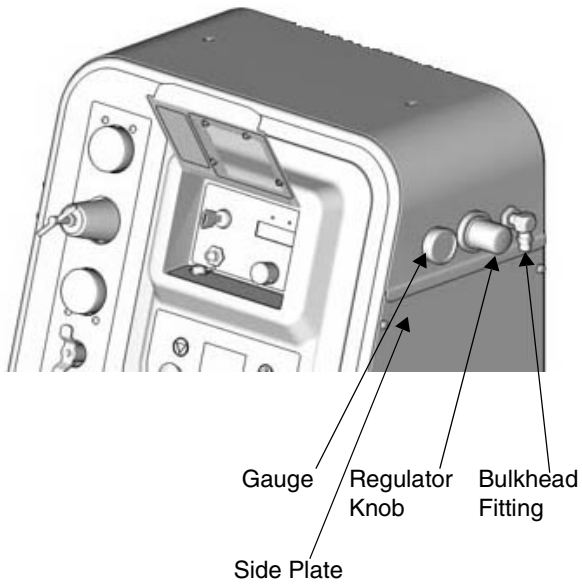

FIG. 1
4. Remove knockouts in the plate (2 on meter-based systems and 3 on pump-based systems) and install the bulkhead fitting, regulator knob, and pressure gauge through the holes in the plate (FIG. 1).